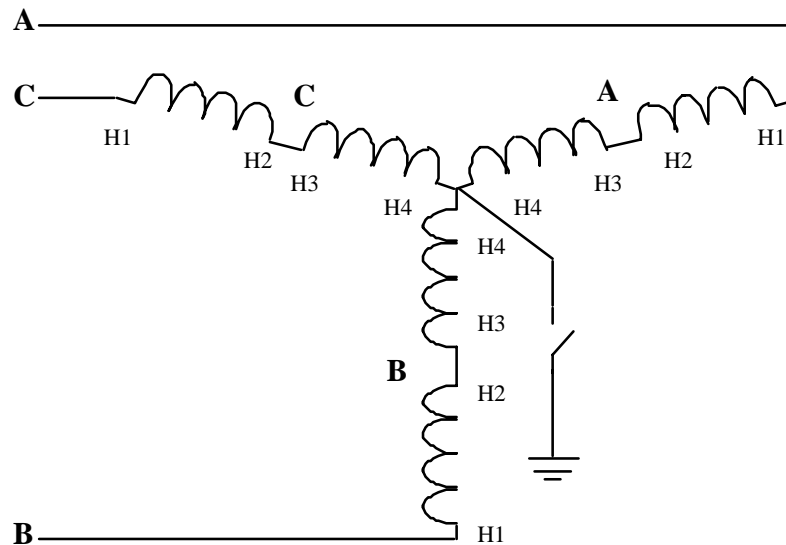

Figure 6
- a. Connect the primary windings into a wye as shown in Figure 6 below. After checking with the professor or TA to make sure the circuit is properly connected, take the voltage up to rated. Measure the magnitudes of the voltages of each of the secondary windings. Remember that the secondary voltages are from X1-X4 since all secondary windings should have a jumper cable from X2-X3.